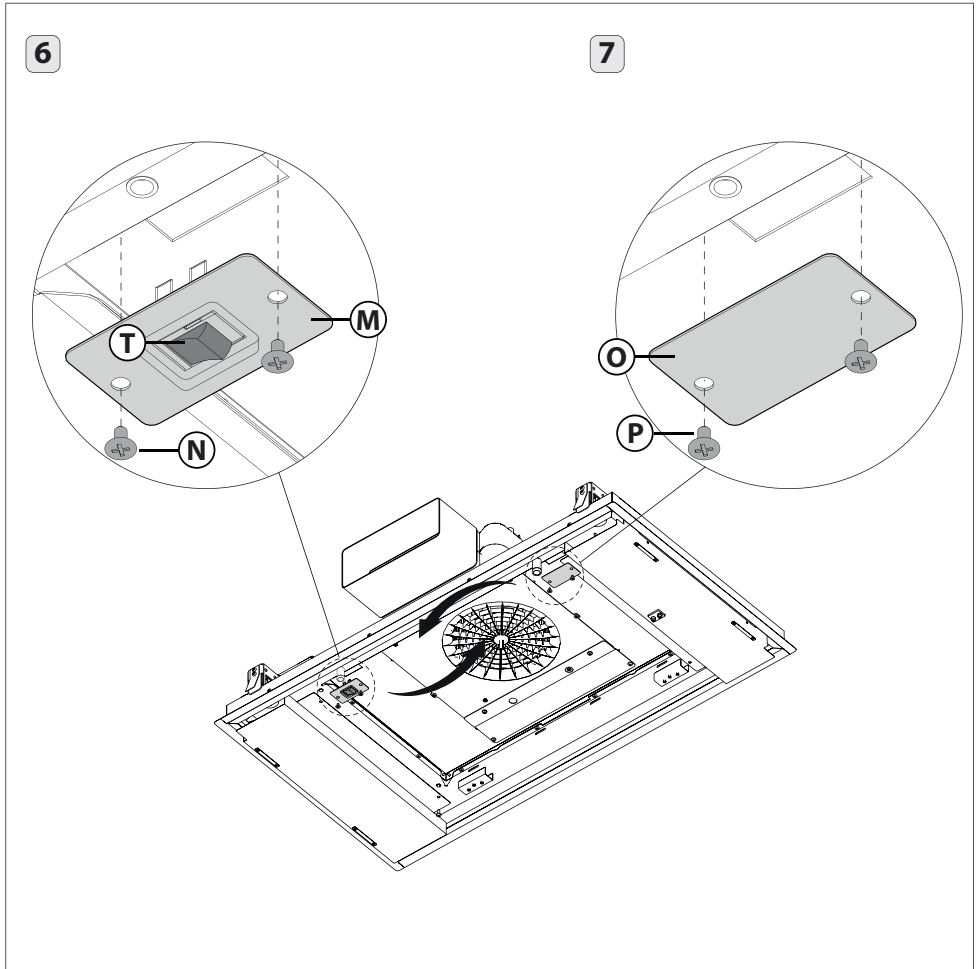

Fig.7
• The minimum distance between the support surfaces of the cooking pots on the cooker top and the lowest part of the cooker hood must be at least **100 cm**. If a connection tube composed of two parts is used, the upper part must be placed outside the lower part. Do not connect the cooker hood exhaust to the same conductor used to circulate hot air or for evacuating fumes from other appliances generated by other than an electrical source. Before proceeding with the assembly operations, remove the anti-grease filter(s) (Fig.7) so that the unit is easier to handle.
- Invert the position of the switch T with the bracket O (Fig.7 - step 6-7) by unscrewing the screws N and P.